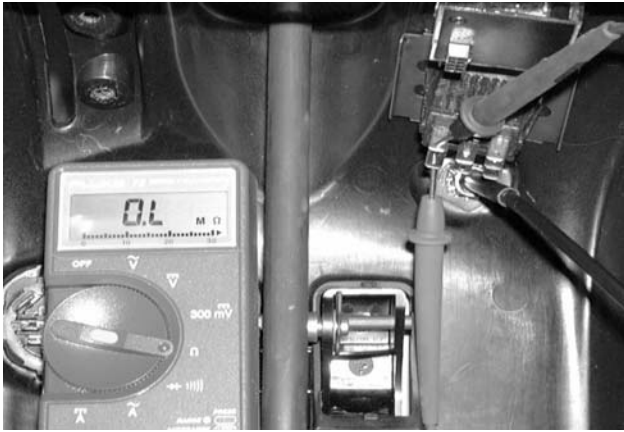

Figure 9-78
–There will be **NO CONTINUITY**. See Figure 9-78.